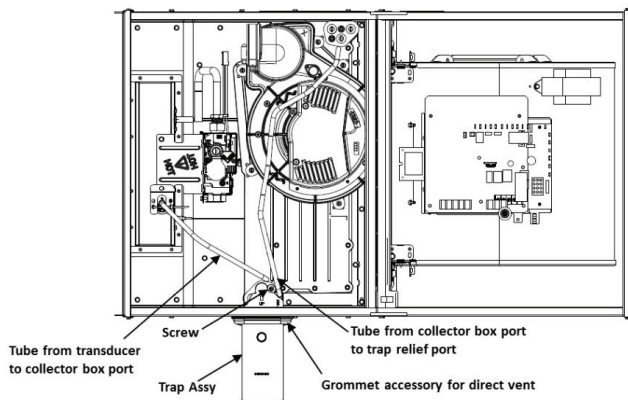

Fig. 22 – Horizontal Left - Trap Assembly Aid
- b. Remove the factory-installed cap from the relief port on the trap and run tube from port on the collector box corner opposite of the trap to the relief port on the trap (see Fig. 22). This will require removing the transducer pressure tubing from the factory-installed position. If the tube is too long, cut any extra length from the tube.
- c. Install transducer pressure tubing on the collector box port closest to the trap where the factory-installed collector box cap was installed (see Fig. 22). Trim transducer pressure tubing length ensuring no traps of loops for extra water collections. In the installed position, the transducer tubing should be in the lower pressure port and the relief tubing should be in the higher port.